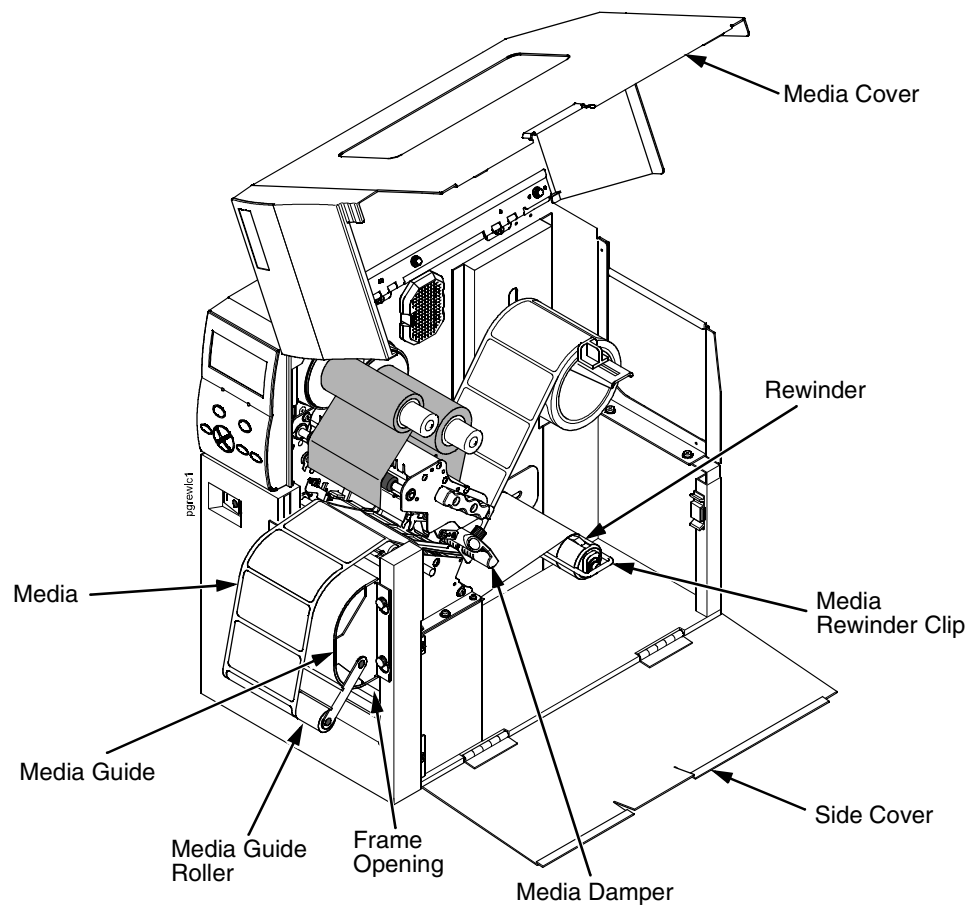
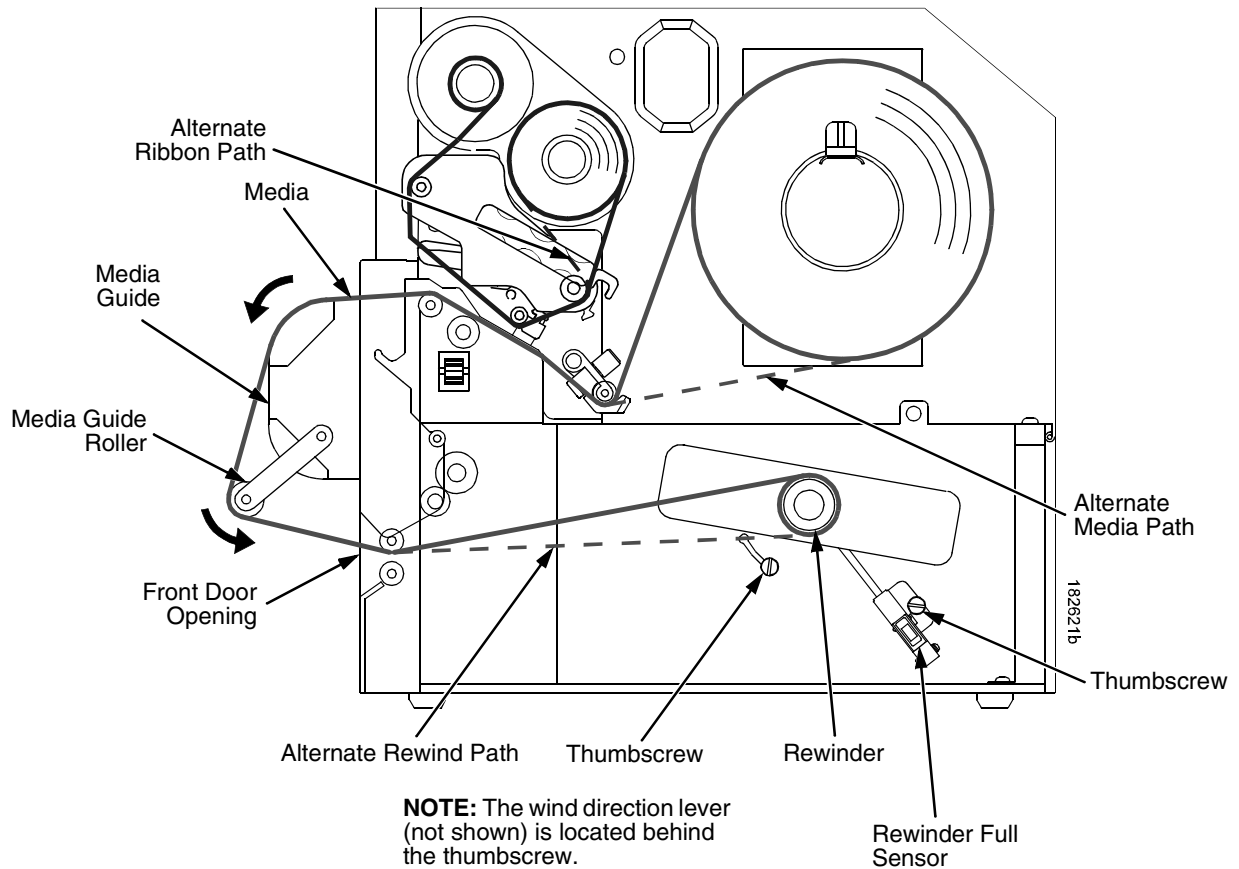

Figure 8. Loading the Media Rewinder
Figure 9. Ribbon Rewind Path
2. Thread the media over the front of the media guide, around the media guide roller, and through the frame opening toward the rewinder. See Figure 8 and Figure 9.
- Loosen the thumbscrew, pull it outward, position the wind direction lever in the desired location, and tighten the thumbscrew. See Figure 9.
2. Position the rewriter full sensor in the lower position and tighten the thumbscrew. See Figure 9.